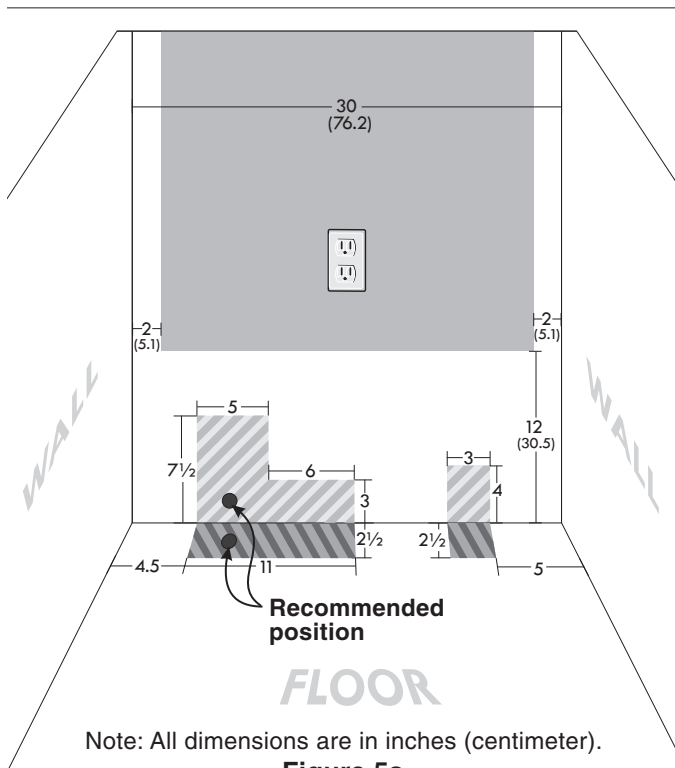

Figure 5a
- The hatched areas are the locations where the gas line can enter the cabinet (figure 5a).
- The recommended position for the gas entry line is located at 7" (17,8 cm) from the left cabinet wall and 2" (5,1 cm) from the floor (figure 5a).
- The shaded area is the location where the electric outlet can be located (figure 5a).